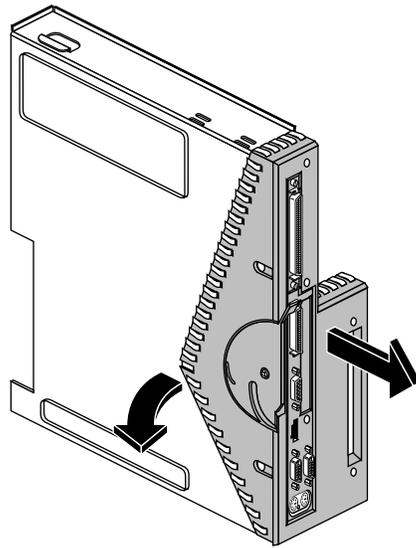

Figure 1-10 Removing the Face Plate from the R10000
- Remove the plastic and metal face plate by grasping it where the plastic comes to a “V” and pulling it outward (Figure 1-10).